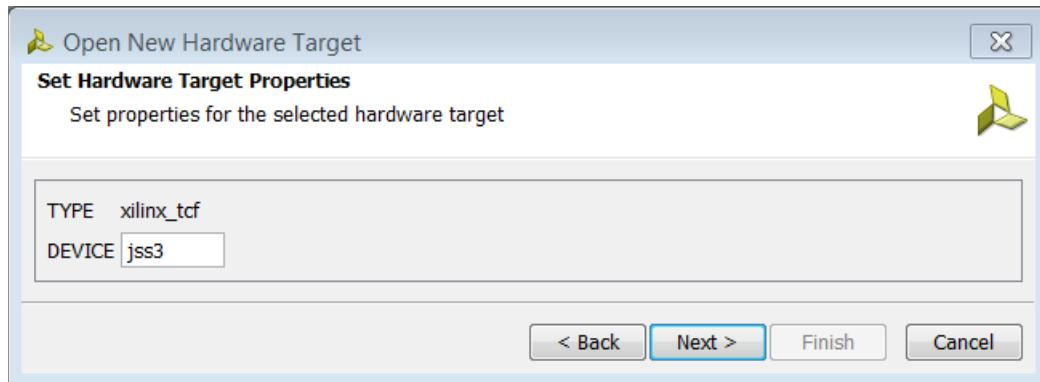

Figure 66: Type and Device
5. Click **Next** again to invoke the next dialog box (Figure 66).